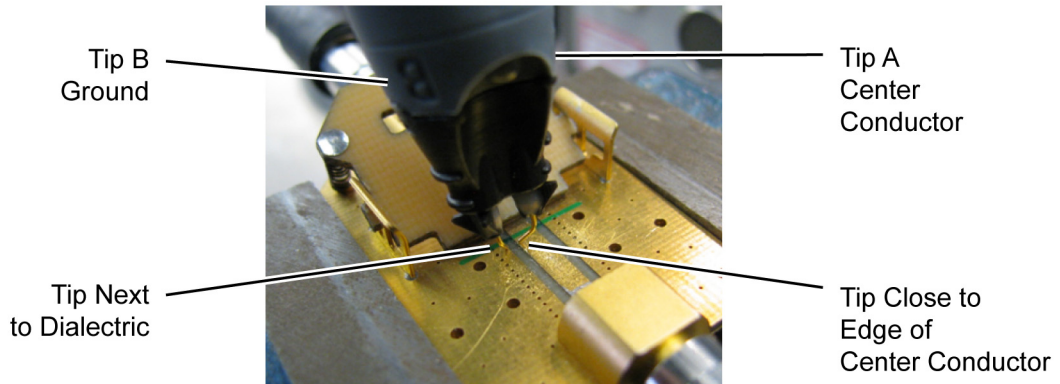

Figure 47 Close-Up Showing Tip Spacing and Position
- 17** Spread the probe tip's wires so that the tips are slightly wider than the gap between the signal trace and the ground on PV fixture. See Figure 47 on page 68.